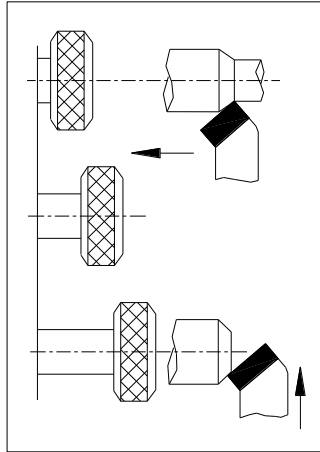

Fig.4-8
- **Apron:** By handle 43, Fig.4-2 the automatic feed drive is performed from the lead shaft and carriage mechanism. The carriage longitudinal feed or cross feed is controlled by handle 32, Fig.4-2 in compliance with the instructions on the plate, Fig.4-8.